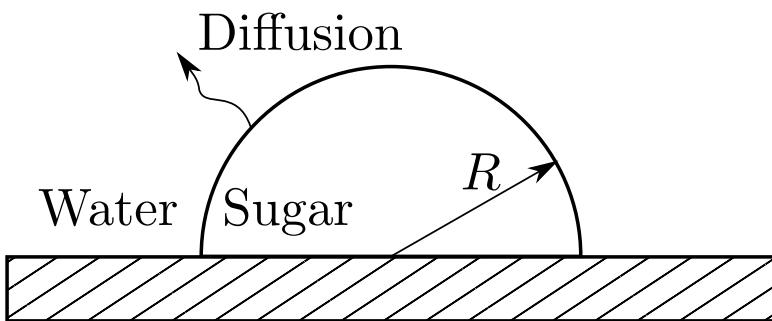

Figure 24: The lump of dissolving sugar.
- b) A hemispherical lump of sugar, initially of radius $R = 0.005 \text{ m}$, is dropped into a cup of tea, quickly coming to rest on the bottom of the cup as shown in Fig. 24. The sugar lump then slowly dissolves into the tea. The diffusion coefficient of sugar in tea is $4 \times 10^{-10} \text{ m}^2 \text{ s}^{-1}$. The saturation mole fraction of sugar in tea is 0.1 and the total molar density of the system is $c = 55 \times 10^3 \text{ mol m}^{-3}$.